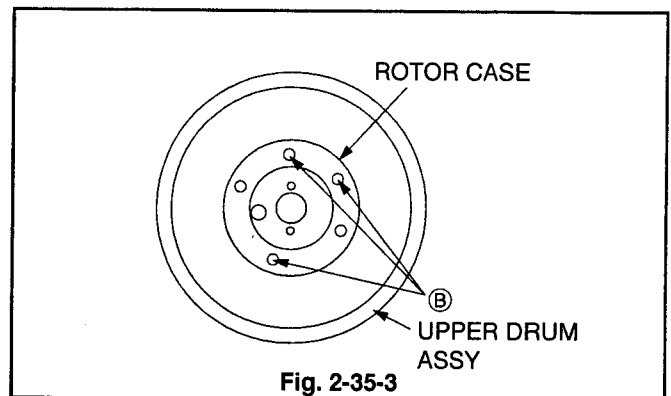

Fig. 2-35-3
5. Install the ROTOR CASE shown in the Fig. 2-35-3, matching its Holes with the three reference holes (B) of the UPPER DRUM ASSY.